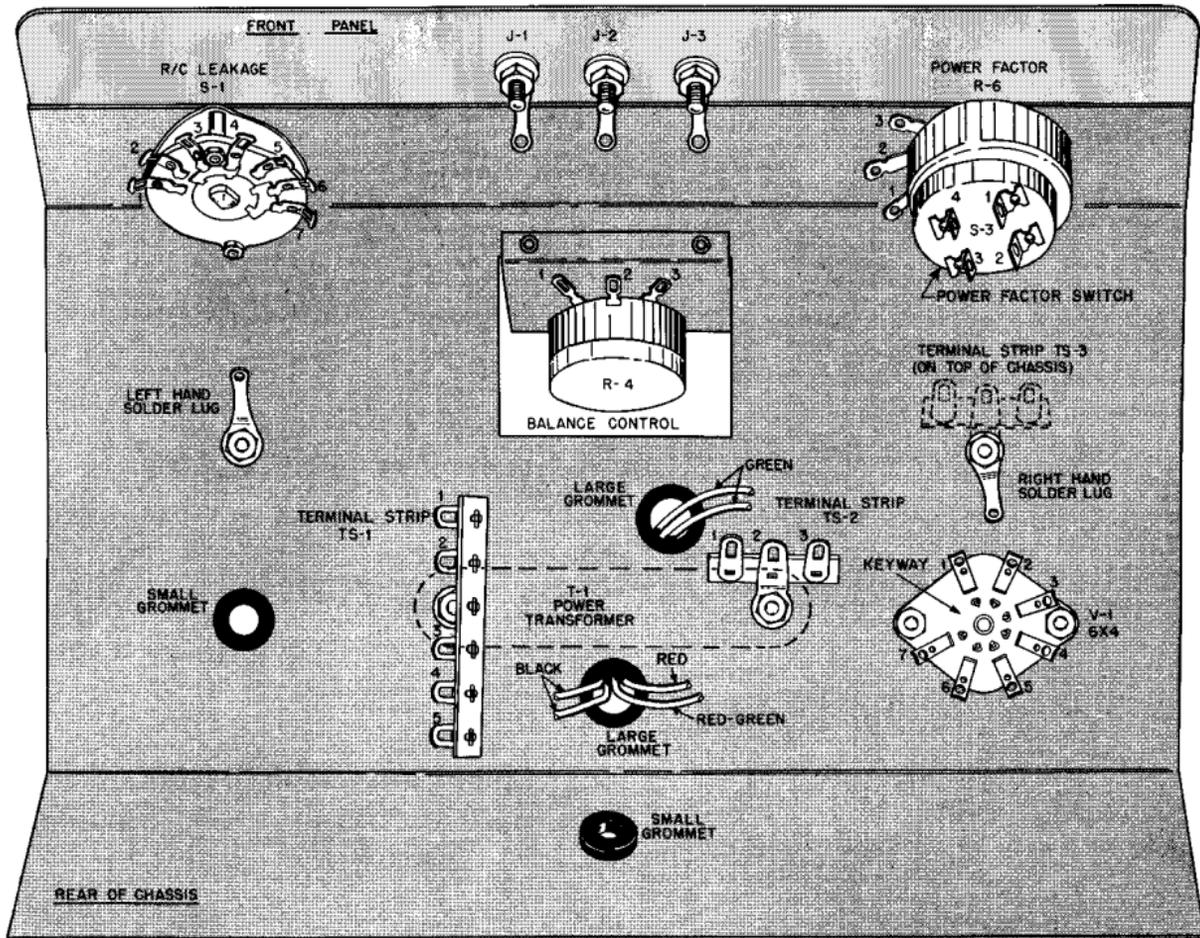
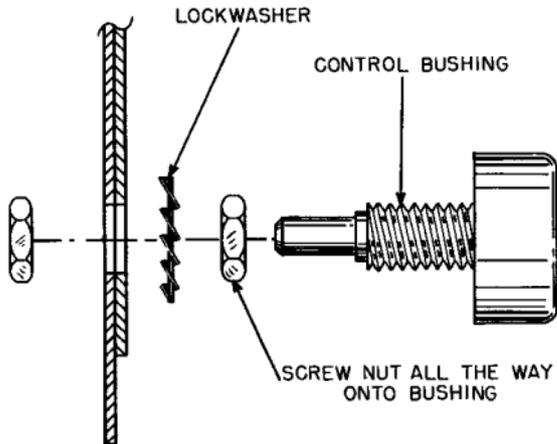
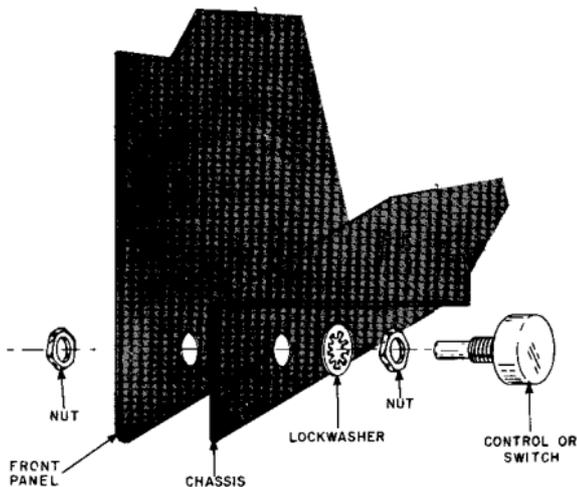

FIGURE 1. MOUNTING THE PARTS ON THE CHASSIS
FIGURE 2. HOW TO MOUNT A CONTROL
FIGURE 3. HOW TO MOUNT THE FRONT PANEL WITH A CONTROL
REFER TO FIGURE 1.
- (X) Mount the 7-pin wafer socket inside the chassis over the hole near the right rear edge of the chassis with two machine screws and nuts. The keyway (the wide open space between two of the socket pins) must be toward the left and front of the chassis.
- (X) In front of the 7-pin socket, mount the other three-terminal strip (TS-3) on the outside of the chassis, shown in broken lines in Figure 1, and a solder lug on the inside of the chassis, with a machine screw and nut. This solder lug will be referred to as the Right Hand Solder Lug.
- (X) Mount R-4, the 10K ohm potentiometer without a switch, on the bracket that is welded to the top of the chassis so its terminals point toward the rectangular hole in the chassis. Figure 2 shows how to mount a control using two nuts and a lockwasher
- (X) Mount the front panel to the chassis with R-6, the 800 ohm potentiometer with a switch. See Figure 3. The potentiometer terminals must be toward the center of the chassis, as shown in Figure 1.
- (X) Mount S-1, the single-wafer switch, in the left hand hole in the front of the chassis. Position the switch as shown in Figure 1. See Figure 3.
(X) Mount the double-wafer switch (S-2) in the small hole near the top of the front panel. See Figure 2. The open space on the rear wafer must be toward R-4, as shown in Figure 1.